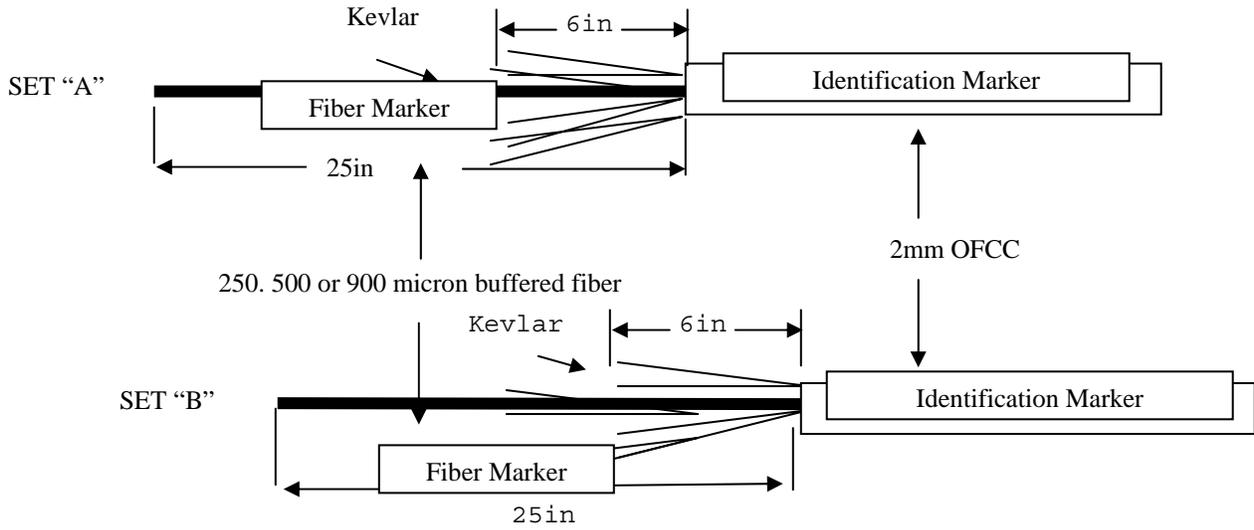

Figure 6 – Fiber Identification Markers
Step 5 – Install fiber identification markers on the buffered fiber (See Figure 6 below).